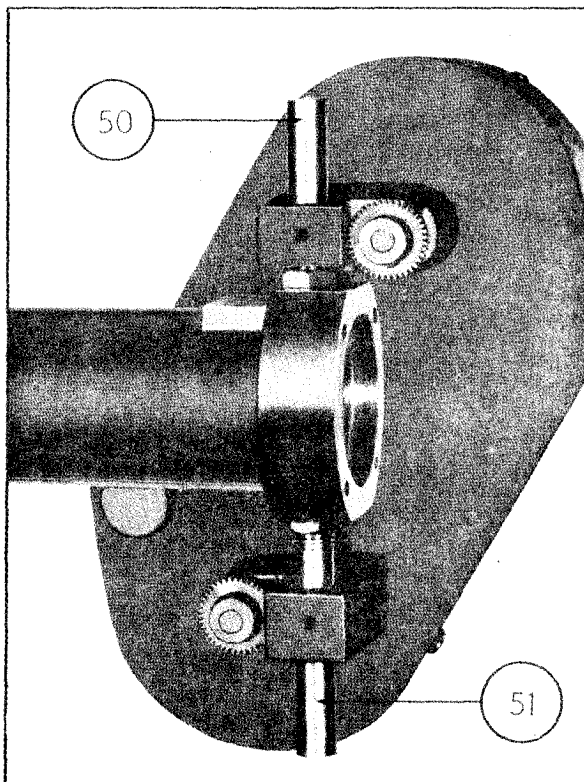

Figure 4-38. Assembly of Monitor and Attenuator RF Probe Holders
Figure 4-38 shows assembly of the monitor (50) and attenuator (51) RF probe holders. The holders should be screwed into the cavity block until they are as close to the inside surface of the cavity as possible without any portion of the holder actually extending into the cavity. The locknuts holding the holders should then be secured.